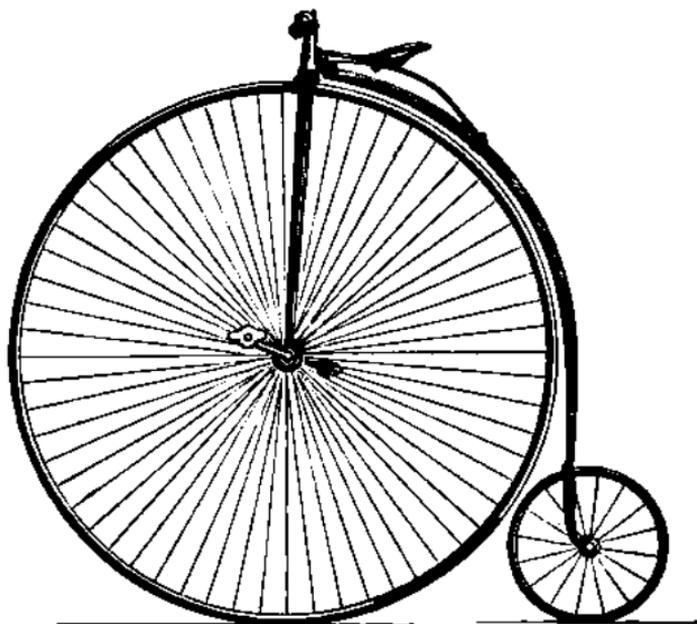

FIG. 7. THE LONDON BICYCLE.
32. *The Improved London* (Moir, Hickling, and Co., Show-rooms, 30, Queen Victoria-street, London, E.C.).—The original London proving a success, a new edition (Fig. 7) has been issued, which brings it up to date. It now has bearings fashioned after the Humber model—i. e., a double row of balls, kept apart by a washer, with double side adjustment; the top of the case slips up into the lower end of the hollow steel forks, into which they are neatly braced. The upper portion or